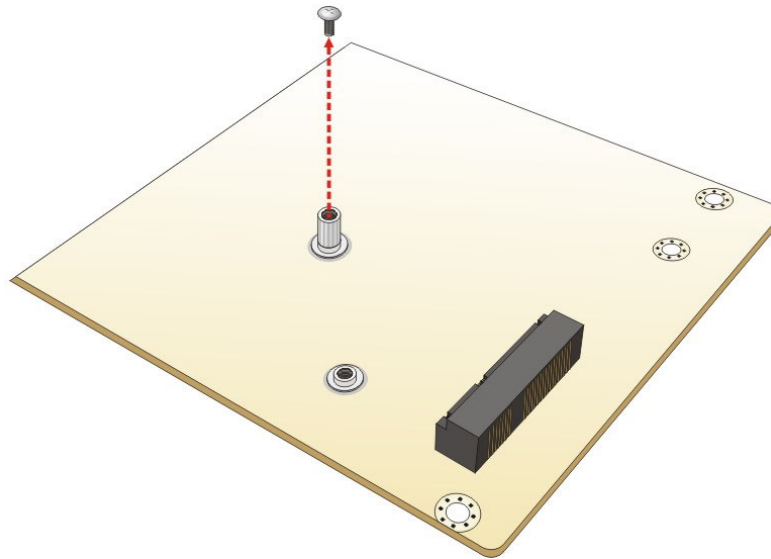

Figure 4-7: Removing the Retention Screw
Step 2: Remove the retention screw. Remove the retention screw as shown in Figure 4-7.
Step 2: Remove the retention screw. Remove the retention screw as shown in **Figure 4-7**.